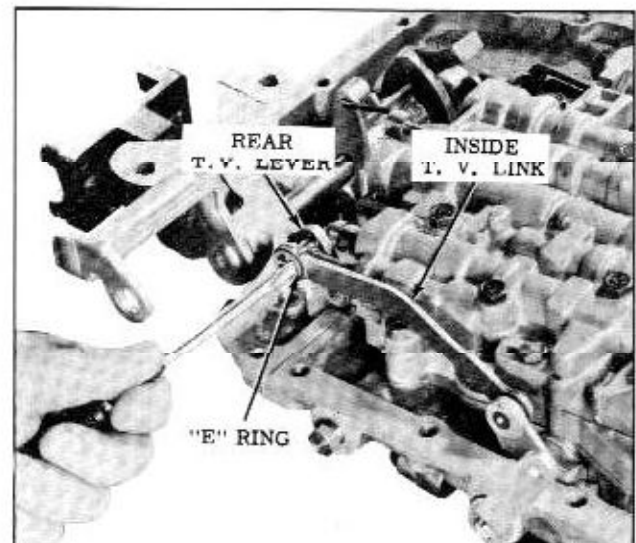

Fig. 3-27 Removing Inside T.V. Link
7. Remove inside T.V. link from rear T.V. lever by removing the "E" retaining ring. (Fig. 3-27)